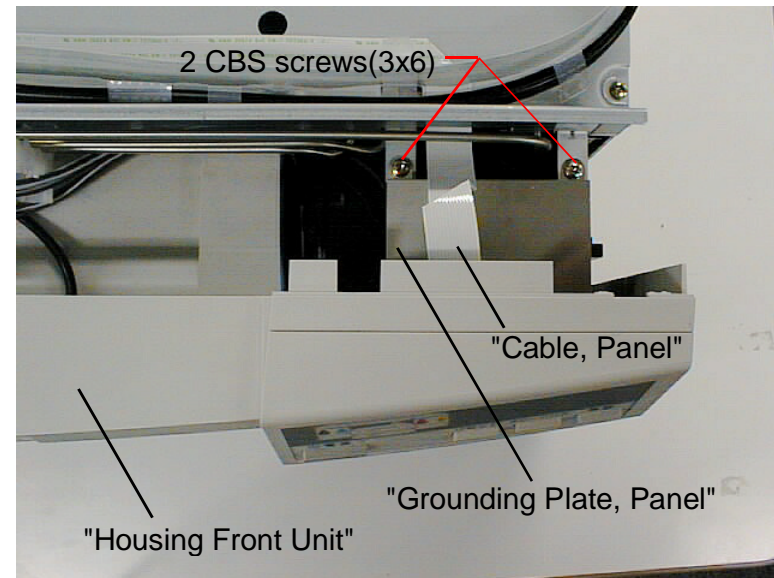

Figure 4-8. Housing Front Unit Removal
3. Remove 2 CBS screws(3x6) securing "Grounding plate, Panel" to "Frame, Paper Eject". (Refer to Figure4-8)